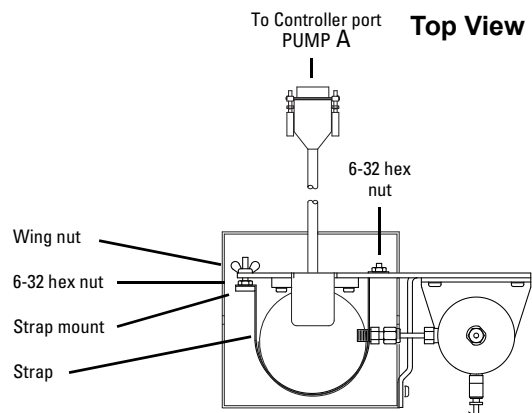

Figure 3: Air valve installation Requires pressurized air source @ 80-115 psi (5.5 - 7.93 bar)
**Air Valve Package** – As shown in Figure 3, connect the two positive (red) wires to any two of the 15VDC terminals on the rear of the controller. Connect the black wire from solenoid #1 (IN) to DIGITAL OUTPUT 1. Connect the black wire from solenoid #2 (OUT) to DIGITAL OUTPUT 2.